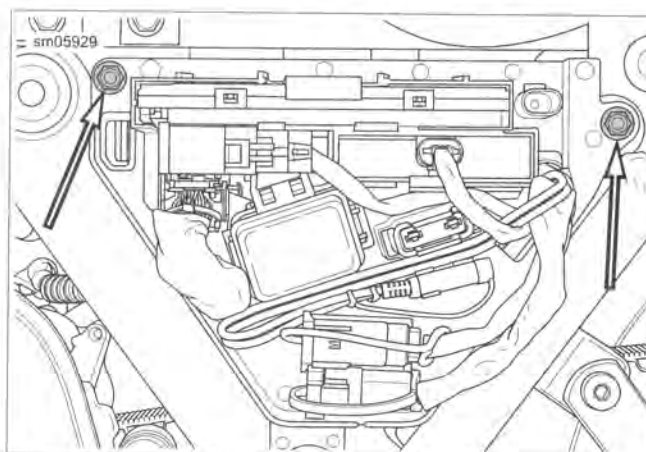
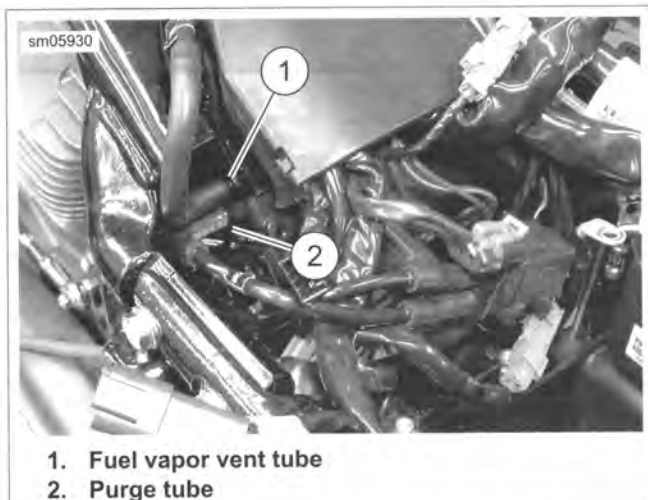
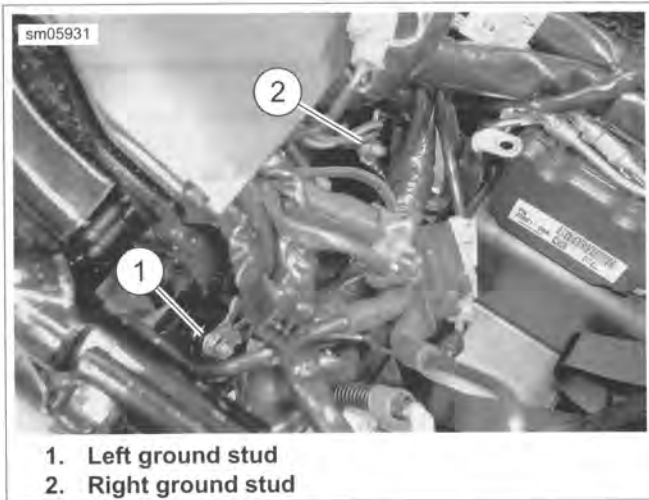

Figure 4-49. Left Electrical Caddy
Figure 4-50. Purge Tube Connections
Figure 4-51. Chassis Ground Studs
6. See Figure 4-49. Remove screws securing left side caddy to frame.
7. See Figure 4-50. Disconnect fuel vapor vent tube (1) from canister fitting marked "TANK."
8. Disconnect purge tube (2) from canister fitting marked "PURGE."
9. See Figure 4-51. Remove three ground ring terminals from left ground stud (1).
10. Remove two ground ring terminals from right ground stud (2).
3. See Figure 4-51. Install three ground ring terminals on left ground stud (1).
4. Install two ground ring terminals on right ground stud (2). Place battery chassis ground terminal on stud first.
5. See Figure 4-50. Connect purge tube (2) (charcoal canister to purge solenoid) to lower canister fitting marked "PURGE."
6. Connect fuel vapor vent tube (1) (vapor valve to charcoal canister) to upper canister fitting marked "TANK."
7. See Figure 4-49. Install left electrical caddy with two fasteners. Tighten to 72-96 in-lbs (8.1-10.9 Nm).